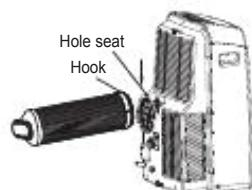

Fig.17
2. Reset the hook of the Exhaust hose into the hole seat of the air outlet and slide down the Exhaust hose along the arrow direction (See Fig.17) for installation.